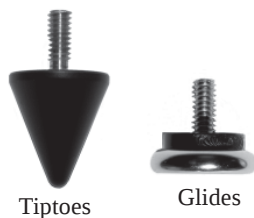

Figure 2
16. One set of optional feet (eight Tiptoes and eight Glides) are supplied with the ST27 Column Base. To prevent crushing carpet use the Tiptoe Spikes; to protect non-carpeted flooring use the Chrome Glides. Both the Glides and Tiptoes have a threaded shaft and locking nut that screw into the tapped holes in the bottom of the ST27's base rails. The feet can be independently adjusted to compensate for uneven flooring. Refer to figure 2.